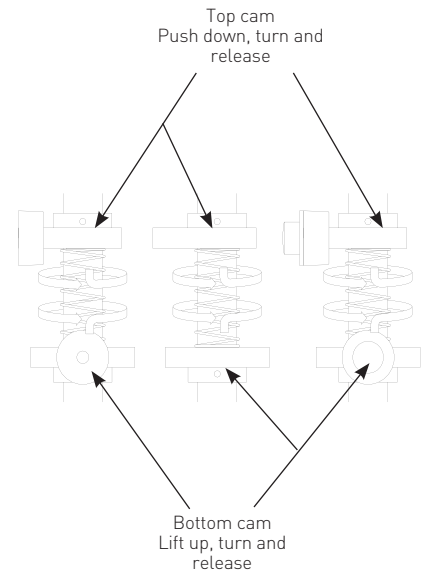

Figure 2
2.5 To set the switches, lift the bottom cam and turn until the switch has activated and then release. The spring will push the cam back onto the splined shaft. See Figure 2.